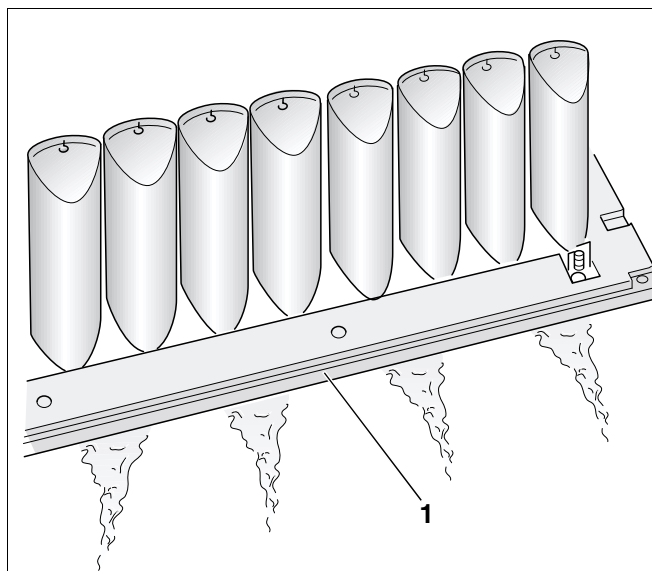

Fig. 22 Pivoting the gas burner
Ensure that the thermal insulation on the burner shield (Fig. 22, **Item 1**) stays dry.
- Invert the gas burner and position with the burner rod aperture pointing down to allow water to drain off (Fig. 22).